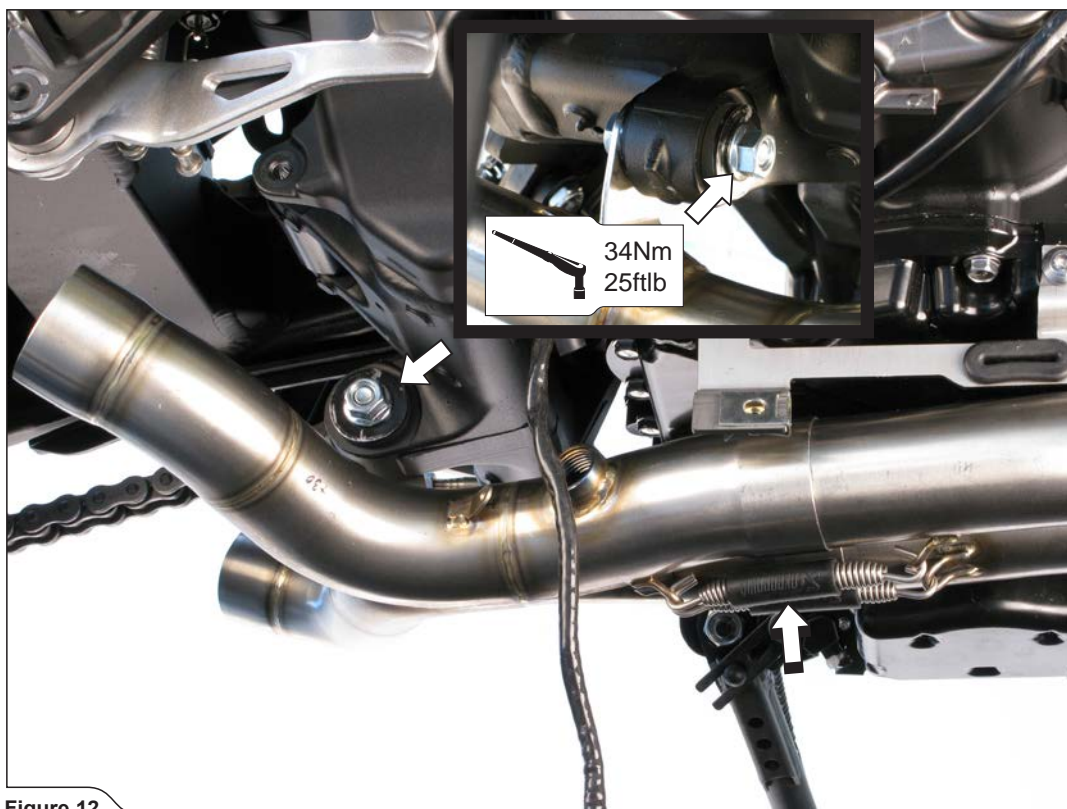

Figure 12
5. Slide the link pipe all the way onto the collectors. Attach the springs and tighten the link pipes' bracket onto the frame using M10x55 bolt and nut from Akrapovič installation kit (Figure 12).